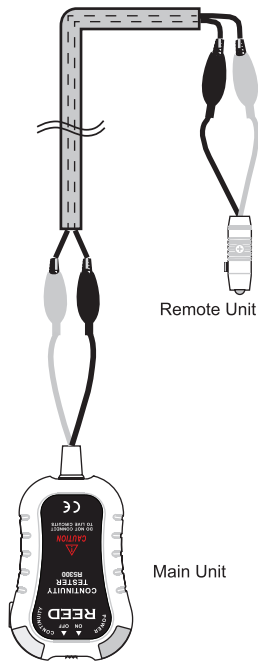

Figure 1
2. Refer to Figure 1, attach the red and black clips of the Main Unit to one end of cable/wires under test, then go to the other end of the cable/wires and connect them to the test leads of the Remote Unit.